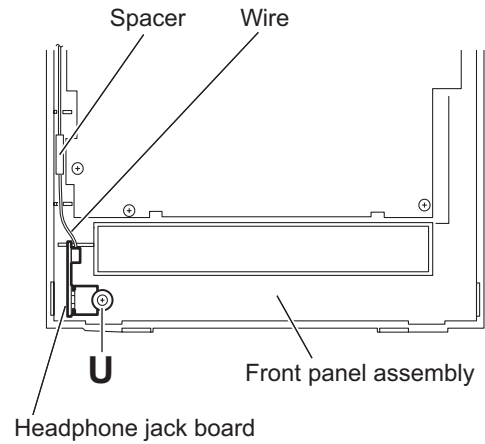

Fig.27
3.1.16 Removing the headphone jack board (See Fig.27)